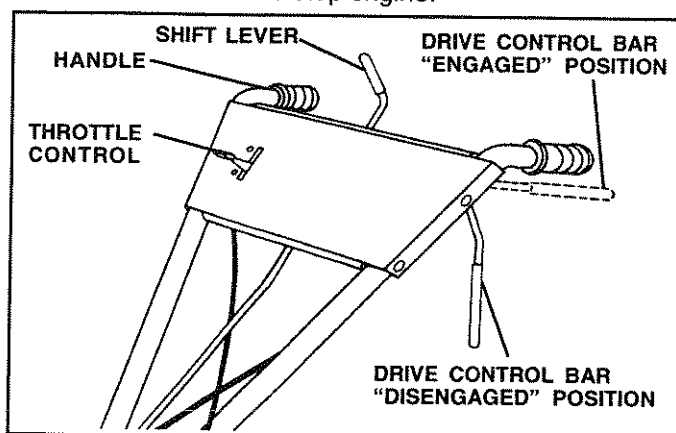

FIG. 9
## STOPPING (See Fig. 9)
- You will find tilling much easier if you leave a row untilled between passes. Then go back between tilled rows. (See Fig. 9) There are two reasons for doing this. First, wide turns are much easier to negotiate than about-faces. Second, the tiller won't be pulling itself, and you, toward the row next to it.